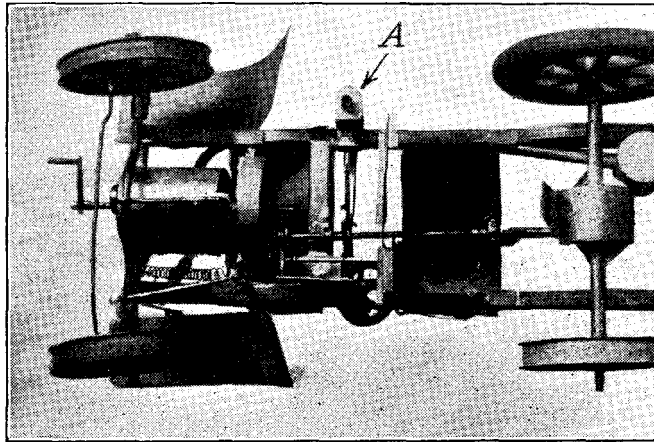
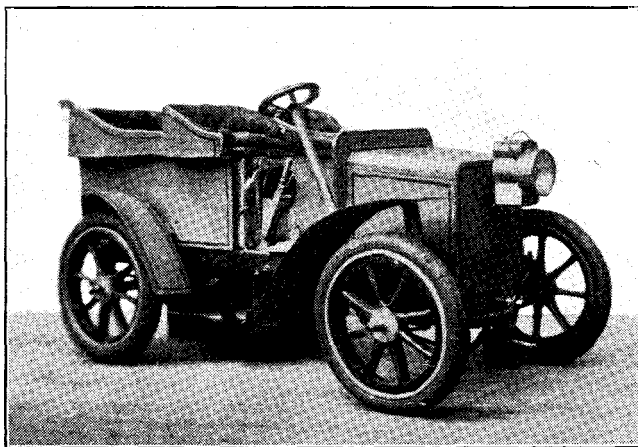

Fig. 3.-Plan View of Car with Engine in Position.
Fig. 4.-The Model Car driven by the Experimental Steam Set.
A rectangular boiler is situated under the front seat; it has an internal firebox, which is fitted with three cross-water tubes, and the fumes from the spirit lamp pass through a single fuel tube, of rectangular section, the outlet of which is on the opposite side of the car to that seen in Fig. 4. This boiler appears to be deficient in steaming qualities, the builder
Just below the driver's seat (Fig. 4) the water gauge may be seen, this gauge is really a glass window in the boiler shell; the small lever to
the right of the gauge is the throttle Fig. 3 shows the arrangement of the chassis; the feed pump (A) is actuated by an eccentric on the propeller shaft; the eccentric strap can be disengaged from the sheave by means of the lever in front of the water gauge. (Fig. 4.)
In the case where a fine feed is required we used a half-pitch ratchet, as shown in Fig. 3. The movement is similar to the other, but 'it
In describing the details of the engine, I will consider the parts requiring castings first, commencing with the bedplate, which is shown in Fig. 3. The patterns should not be difficult to make. The several facings on the upper surface are all in the same plane. The bedplate has an extension which carries the air-pump. A chamber is cast in this extension, which connects the air pump and condenser. A core box will be required to form the core in moulding this chamber. The pockets for the main bearings and the recesses at the front and back should
The cylinders should be made of close-grained cast-iron, care being taken to obtain a clean, sound casting. The casting should be accurately marked off to the dimensions given in Fig. 4.